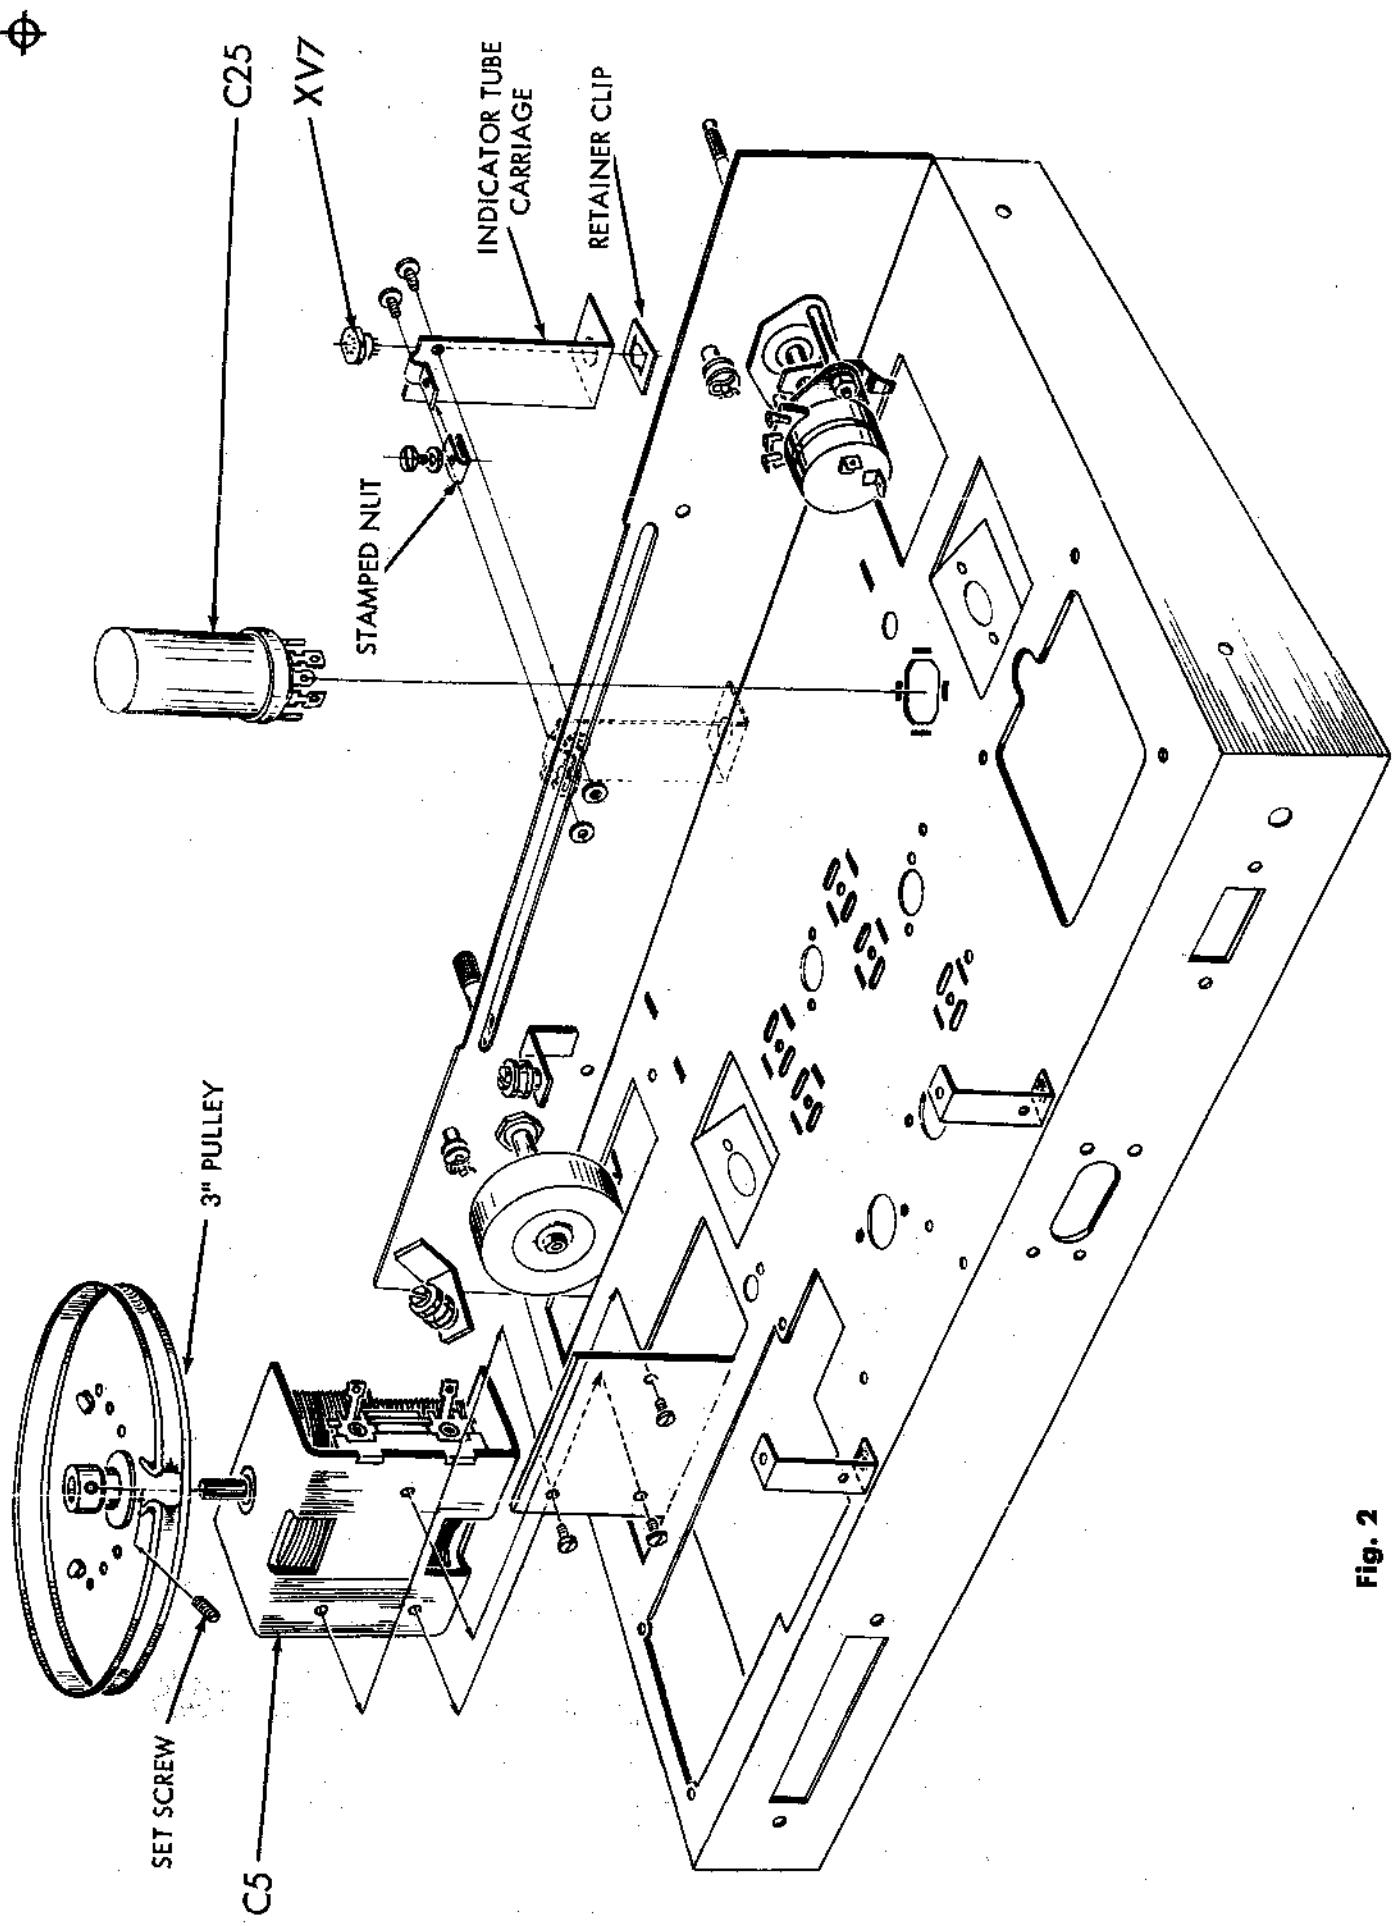

Fig. 2
(✓) 1. Fig. 2. Snap the small stamped nut in position on the indicator tube carriage. Screw a #4-40 screw and a #4 flat washer into the nut. Do not tighten screw.
(✓) 2. Fig. 2. Pass the leads pre-wired to socket XV7 through the "D" shaped hole in the indicator tube bracket. Note that the flat on the socket automatically positions the socket. Pass the leads through the retainer clip and firmly press it over the socket to secure the socket to the tube carriage.
(L) 3. Fig. 2. Mount the indicator tube carriage to the chassis as follows: Lay the carriage in place against the chassis front, as shown. Insert the shoulder of one of the special round brass tapped eyelets into the chassis slot from the rear and line it up behind one of the holes in the carriage. Insert a brass screw through one of the holes in the carriage into the threaded hole in the round brass tapped eyelet and then tighten the screw. Do the same with the second round brass tapped eyelet and brass screw using the second hole in the carriage. The carriage should slide freely along the full length of the slot when you are finished.
(L) 4. Fig. 2. Mount the 40-20-20 mfd electrolytic can capacitor, C25, as shown. Note the orientation (direction of half moon, square and triangle) in figure 5. Twist all four tabs about 1/4 turn. Do not twist too
(L) 5. Fig. 2. Turn the shaft on the variable capacitor C5, so that the plates are fully in mesh - closed (maximum capacity). This will prevent damage to the rotor plates. Mount the capacitor to the chassis bracket bent at a right angle with the rest of the chassis. The capacitor is to be mounted with the trimmer screws facing and closest to the edge of the chassis. Secure the capacitor to the bracket using three #6-32 x 1/8 screws.
(L) 6. Fig. 2. Mount the set screw into the hole in the bushing of the 3" pulley. Rotate this screw three times in the hole so that it will not come loose.
(L) 7. Fig. 2. Slide the 3" pulley over the capacitor shaft. Rotate the pulley and note if it is parallel to the frame of the capacitor. If it is parallel if the pulley does not wobble when rotated. If it is not parallel, bend the pulley slightly. Push the pulley towards the frame. There should be about 1/32" clearance between the pulley bushing and the frame. Turn the pulley clockwise on the shaft until the opening in the side of the pulley is towards the side of the chassis, away from the center. Tighten the set screw when the pulley is in this direction, and the tuning capacitor is fully closed.